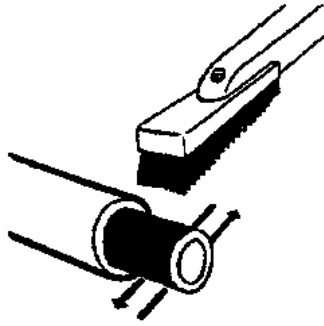

Figure 3. Cleaning Wire Braid
g. Wire brush to remove particles of rubber cover from exposed wire braid (Figure 3).
- d. Wire brush to remove particles of rubber cover from exposed wire braid (Figure 3).